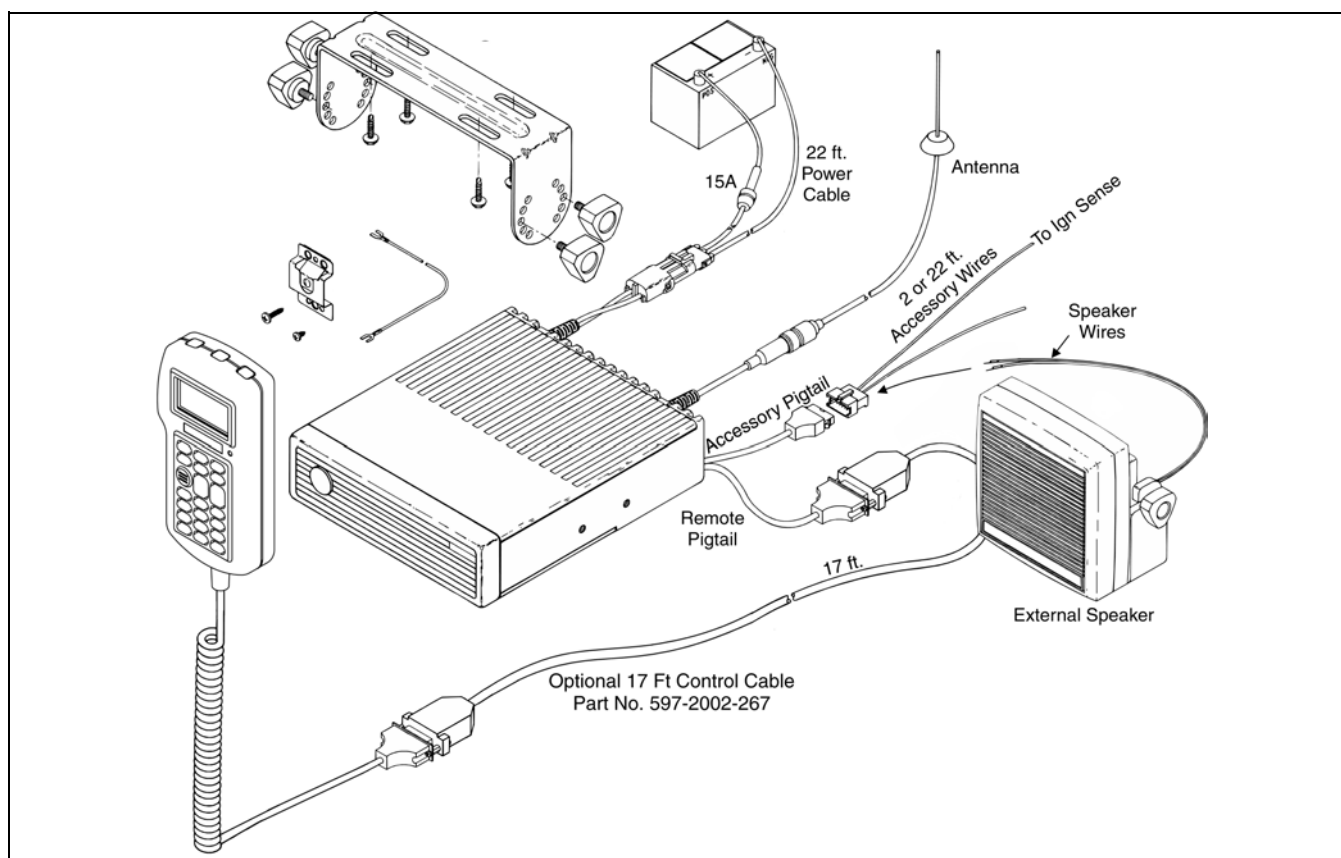

Figure 2-10 HHC Installation Components (Junction Box Not Used)
Junction Box Not Used (Figure 2-10)
2. Route the 17-ft. control cable from the remote pigtail of the transceiver to the control unit as shown in Figure 2-10. Secure the connectors using the captive screws.